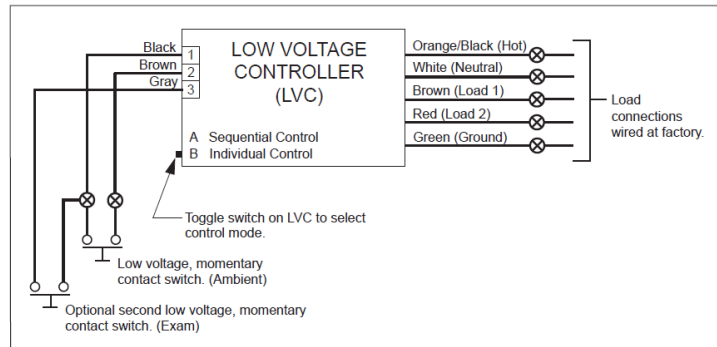

Figure 8
4. The LVC is designed to operate either (1) or (2) loads. (Typically, with the DuoCare™ Exam/Ambient fixture, the LVC is used to control only the ambient load. The Exam load is controlled by a separate line voltage wall switch or timer.) The LVC also has the capability to control the load(s) individually or sequentially. These options and wiring schematics are defined further in figures 8 and 9.
This is used where a switch is dedicated to one load that will be turned on/off. If a second load is to be controlled, a second switch is required. The switch on the LVC is positioned in the "B" position. (See Figure 8)